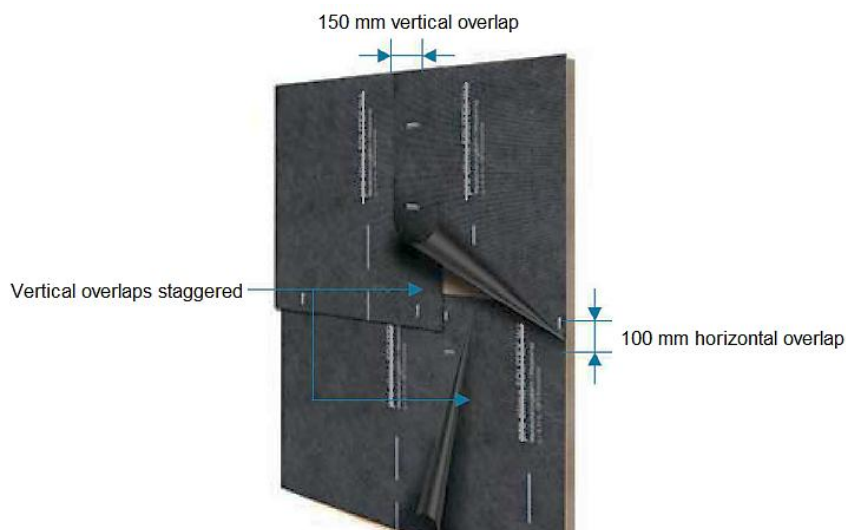

Figure 3 - Effisus Breather FR-B Membrane – Overlapping Joints.
- Vertical joints should overlap by 150mm minimum and be staggered or offset wherever possible(see Figure 3).